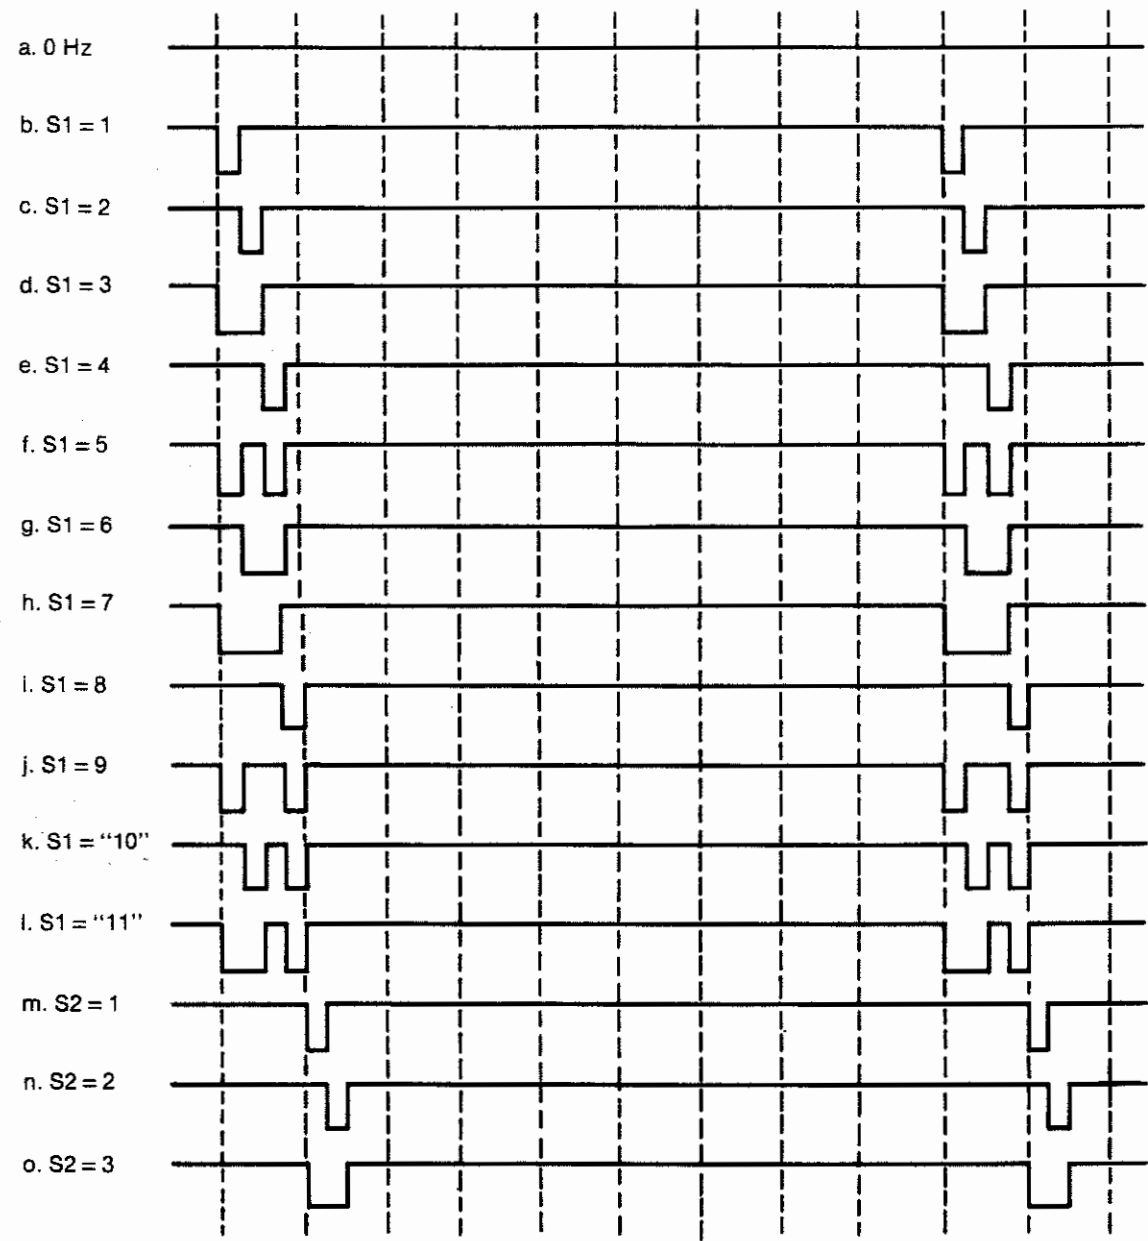

Figure 6-3. Waveform for FPD
7. Rotate S1 through its 12 positions verifying the negative-logic BCD code in the first division of FPD as described in step 6. See figure 6-3, waveforms "a" through "l". (TS-7)
8. Repeat step 7 for switches S2 through S9. See figure 6-3 waveforms "m" through "o", etc. (TS-7)
5. Adjust sweep of scope to set one full cycle of the square wave in step 3 to fill 10 horizontal divisions. See figure 6-3, waveform "a".
6. Connect Ch B probe to DAC-2 and verify waveform "b" in figure 6-3. (TS-9)
8. Display the signal on DAC-3 and compare with figure 6-3, waveform "c". (TS-9).
9. Display the signals on DAC-4 through DAC-11 and compare with figure 6-3, waveforms "d" through "k". (TS-10)